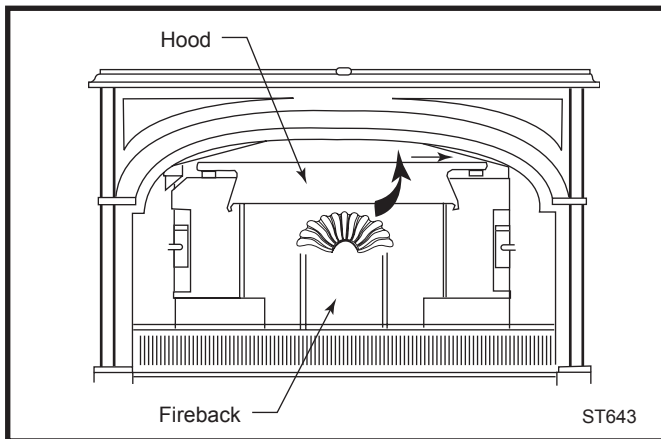

Fig. 48 Release the hood by lifting its bottom edge and sliding to one side.
1. Release the hood from the fireback by swinging the hood upward and then sliding it to either side. (Fig. 48)